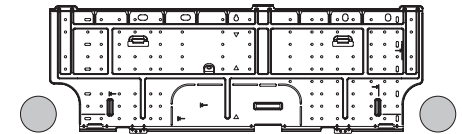

Fig. 3-80
- (1) Attach the rear panel to the wall with the 8 screws provided. (Fig. 3-80)